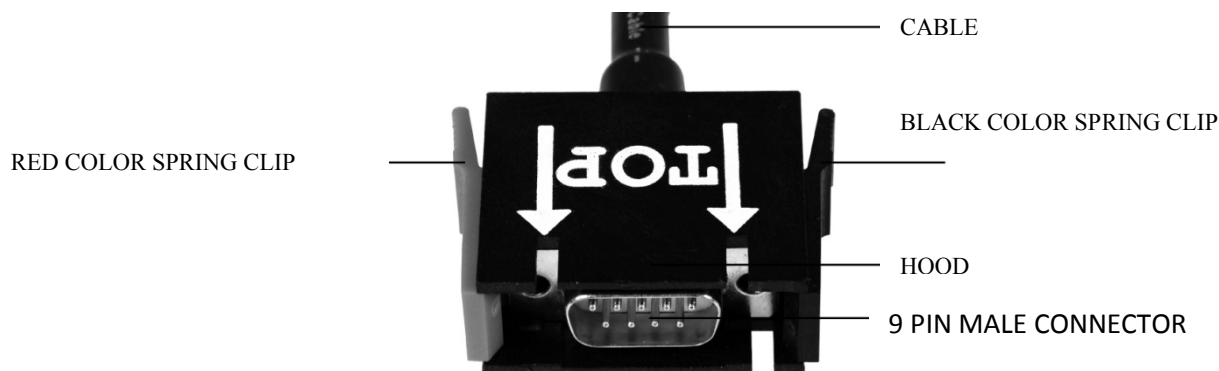

Fig.4 Inter Connecting Cable
11. The interconnecting cable is a protected round cable, one end of which is permanently attached to the Ballot Unit. The other end is attached to a connector with a hood (Fig.4) for connecting it to the Control Unit. One side of BU cable connector spring clip is in 'RED' colour. Also one side of female socket in rear side compartment of CU is in 'RED' colour for easy identification at the time of insertion.